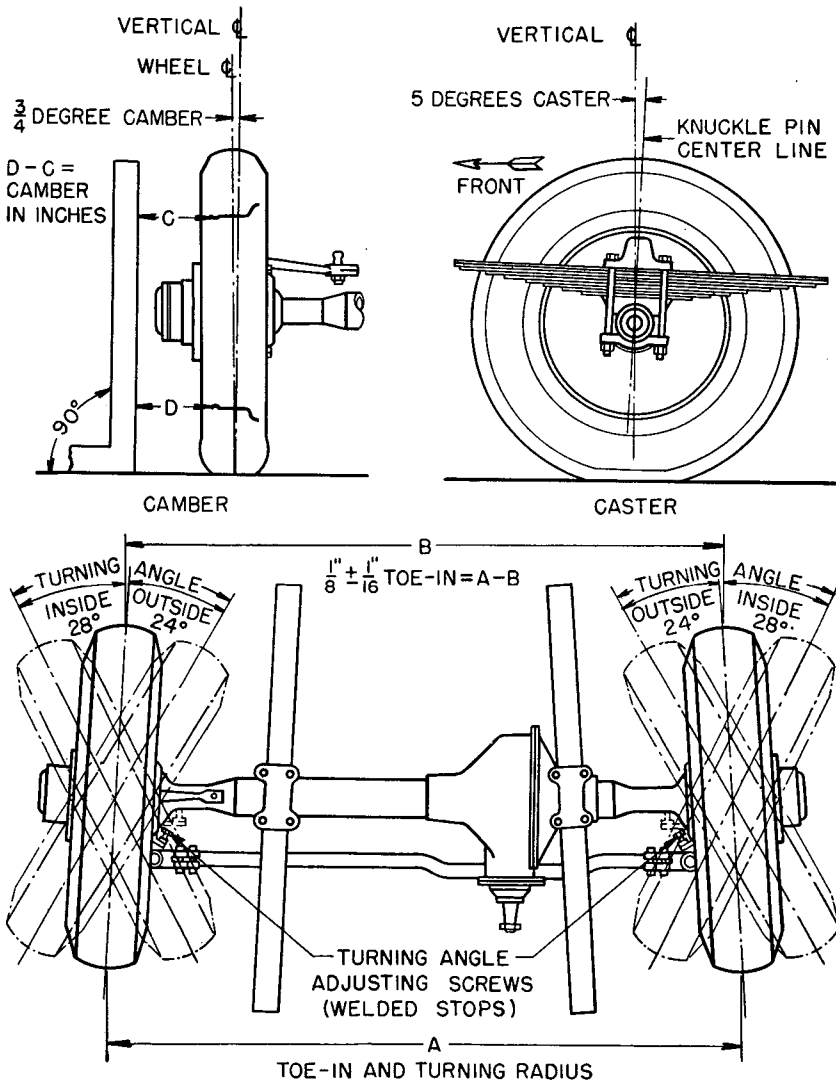

FIGURE 36.—Wheel alignment chart.
*i. Steering tie rod.*—(1) After disassembly, all parts should be washed thoroughly in a grease solvent. Inspect the stud ball and socket joint for scratches, pits, or wearing. Replace any worn or damaged parts.
(2) Replace any soft or weakened springs.
*j. Wheel alinement* (fig. 36).—(1) *Camber*.—This is the amount that the wheels incline at the top from a vertical position. Positive camber is outward inclination of wheels at top; zero camber means no inclination and wheels are held in a vertical plane; and negative or reverse camber is an inward inclination of the wheels at the top.